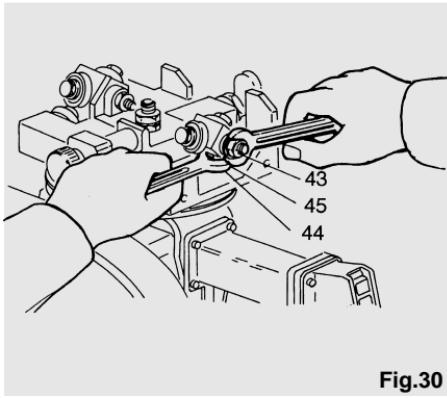

Fig.30
The play of the carriage on the slideways is removed during testing. If some plays are created during transport or working, they will have to be eliminated as follows (see figure 30): loosen nut (43) with the spanner provided and carry out the adjustment by turning screw (44) after loosening lock nut (45).